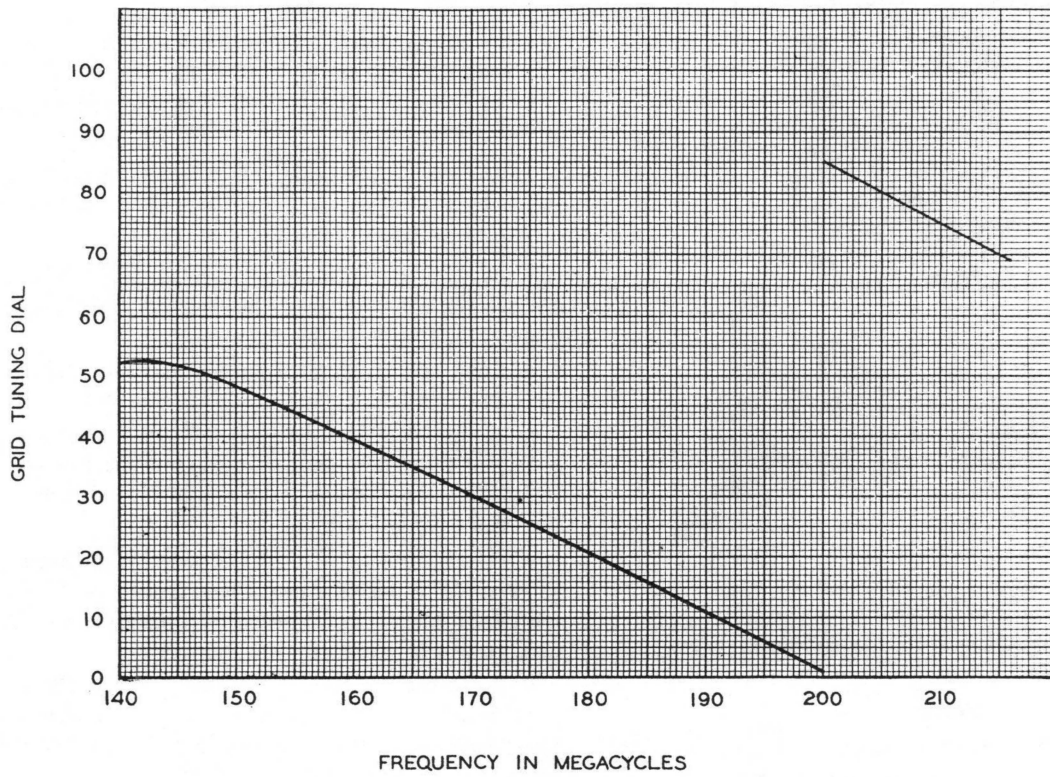

Figure 2-6. Radio Frequency Amplifier AM-18/APT—Grid Tuning Curve
c. Set the panel-located "GRID TUNING" dial to the setting indicated for the desired frequency by the grid tuning curve. (See fig. 2-6.)
grid tank circuit by means of an electrostatically shielded inductive coupling loop. This circuit consists of a resonant line L-102 tuned by a split-stator variable capacitor C-103. These parts are both located on the underside of the chassis. Capacitor C-103 is coupled to the "GRID TUNING" control through an isolantite universal coupling. The outside ends of the grid tuning line are grounded, and the excitation voltage applied to the grids is taken off from the adjacent hot ends at the center of the loop. From 200 to 210 megacycles, grid inductor L-102 acts as a resonant line, and grid tuning capacitor C-103 acts as a shorting bar. From 140 to 200 megacycles grid inductor L-102 and grid tuning capacitor C-103 form an L/C circuit. This factor accounts for the drastic jump in the grid tuning curve. (See fig. 2-6.) Bias (cutoff bias) for class B operation is developed across resistor R-104.